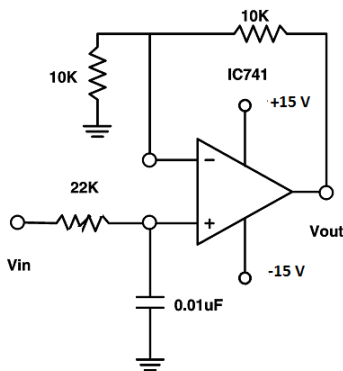

Figure 2
1. Connect the circuit as shown in Figure 2.